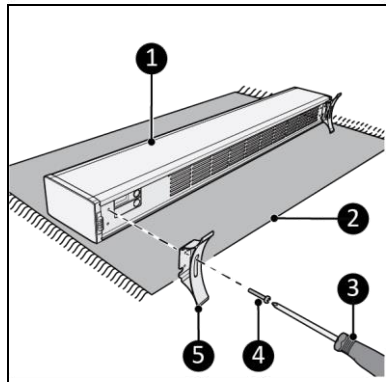

Figure 7
1. Lay the device down on a steady soft surface (Figure 7, pos. 2).
2. Place the pedestals (Figure 7, pos. 8) on both sides of the main body (Figure 7, pos. 1).
3. Screw and tighten the pedestals with a small screw (Figure 7, pos. 4) using a Phillips screwdriver (Figure 7, pos. 3).